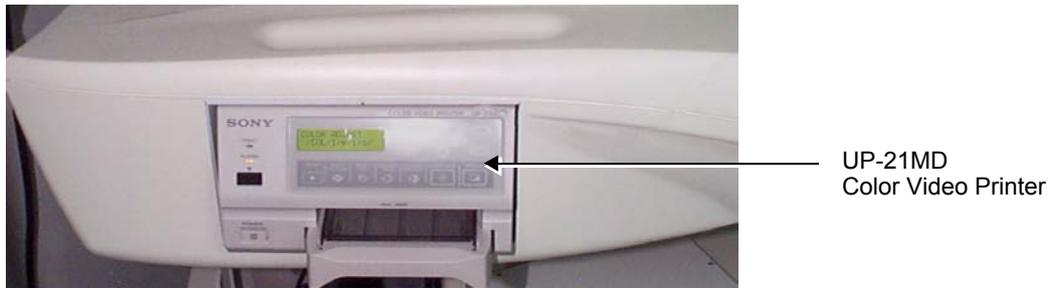

Figure 8-132 Sony UP-21MD Color Video Printer Installed on the Vivid™ 4
- 8) Slide the UP-21MD Color Video Printer into the side compartment, as shown in Figure 8-132 below.